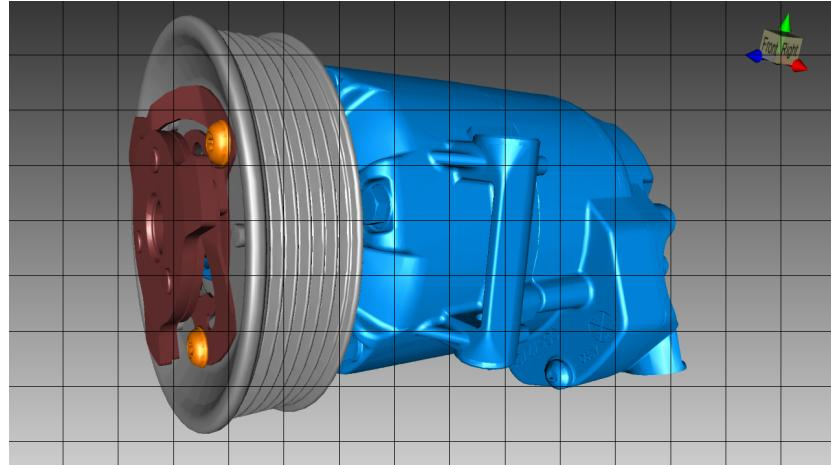

Figure 8: Extremely high resolution screenshot capturing.
- Adding very large screenshot capturing to RPE (Figure 8).